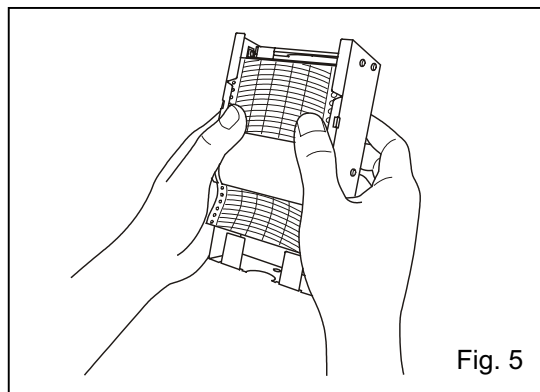

Fig. 5
5. Place the recording chart between the guide and the guide plate. Slide the recording chart along the guide plate so that the recording chart will not be forced out of the date/hour slot. See Fig. 5.
8. Cover the access port with the insulation and rubber cap having a cut. (Fig. 5)
9. After covering the recorder sensor with the cover provided, fix the recorder sensor under the 3rd shelf by using 2 enclosed binders. See Fig. 5.